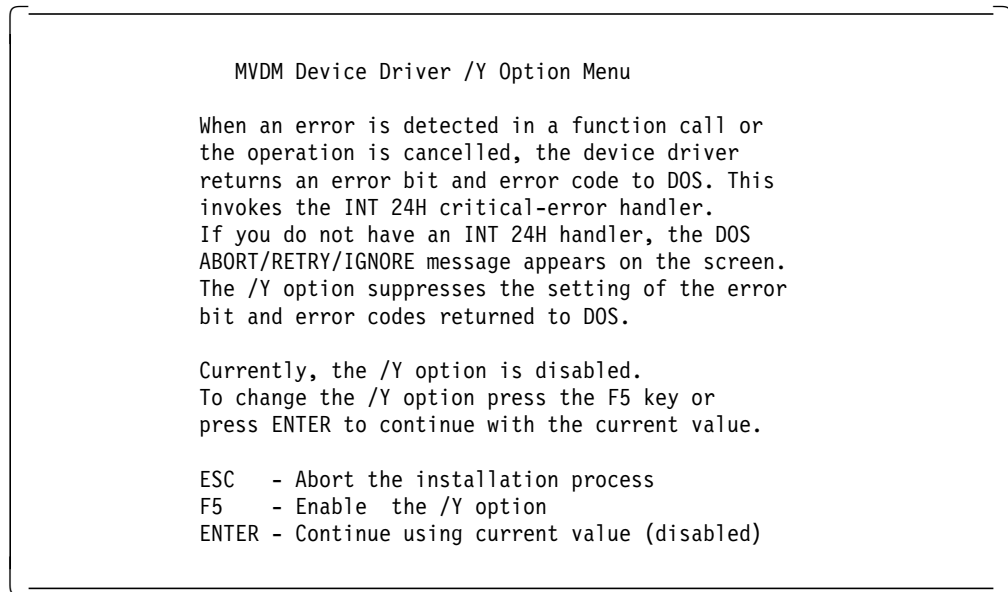

Figure 73. MVDM Device Driver /Y Option Menu
2. Press Enter and Figure 73 will be displayed.